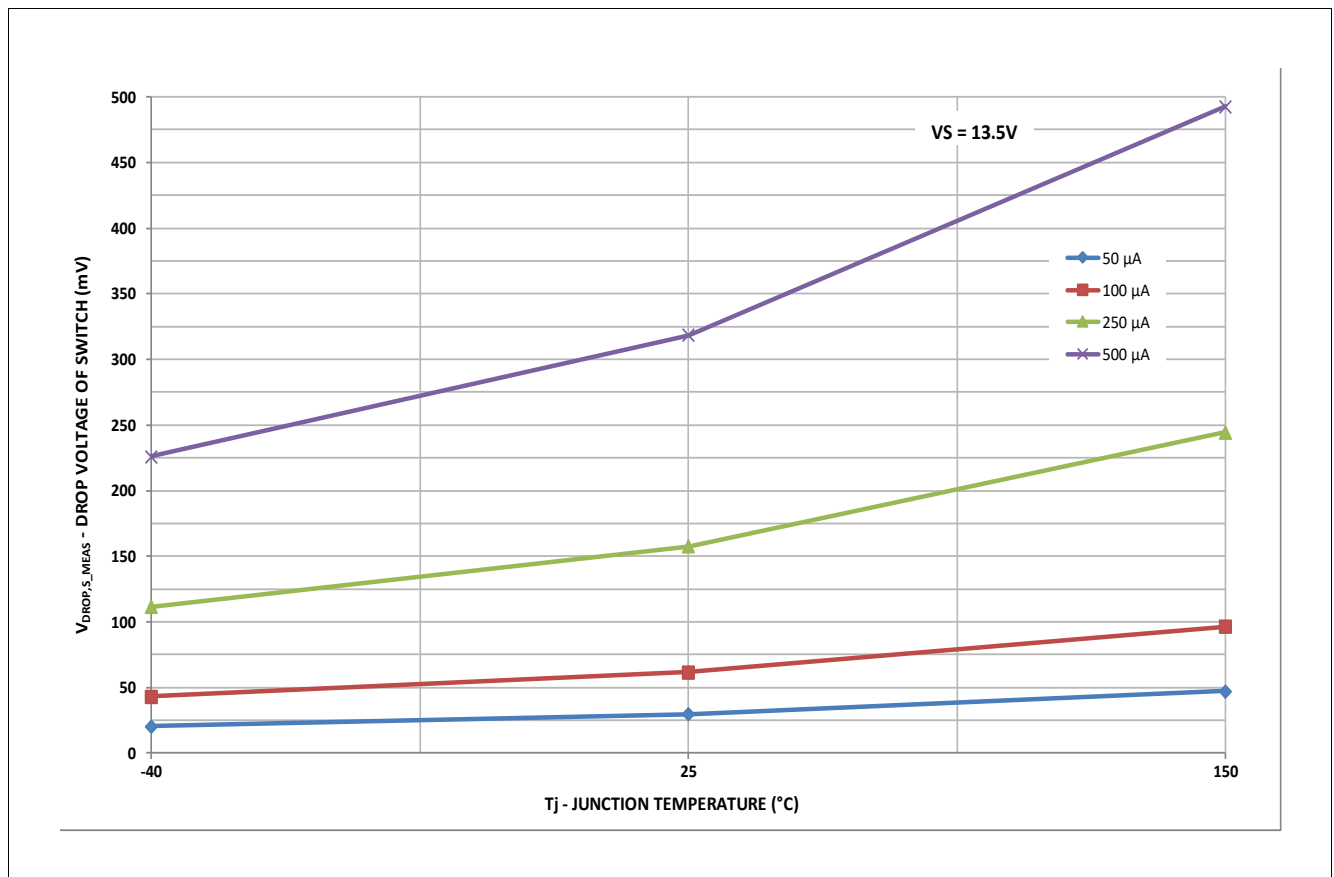

Figure 13 Typical Drop Voltage Characteristics of switch S_MEAS (between WK/VSENSE & FO/GPIO)
*Note: There is a diode in series to the switch S_MEAS (not shown in the **Figure 46**), which influences the temperature behavior of the switch. See also **Figure 13**.*